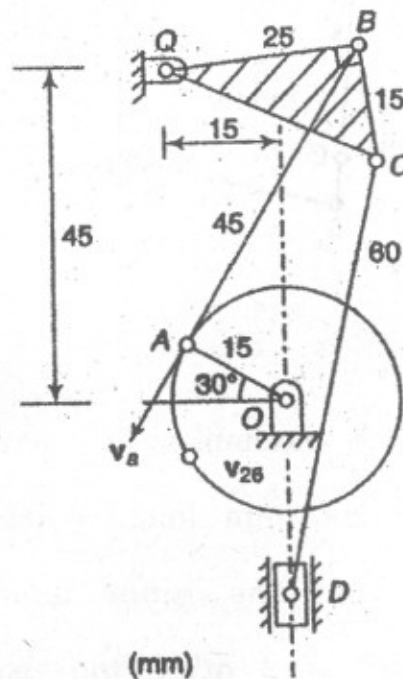

Fig. 2
- (b) Fig. 2 shows the mechanism of sewing machine needle box. For the given configuration, find the velocity of needle fixed to the slider 'D', when the crank OA rotates at 40 rad/sec. Use Instantaneous Centre of Rotation method. [12]